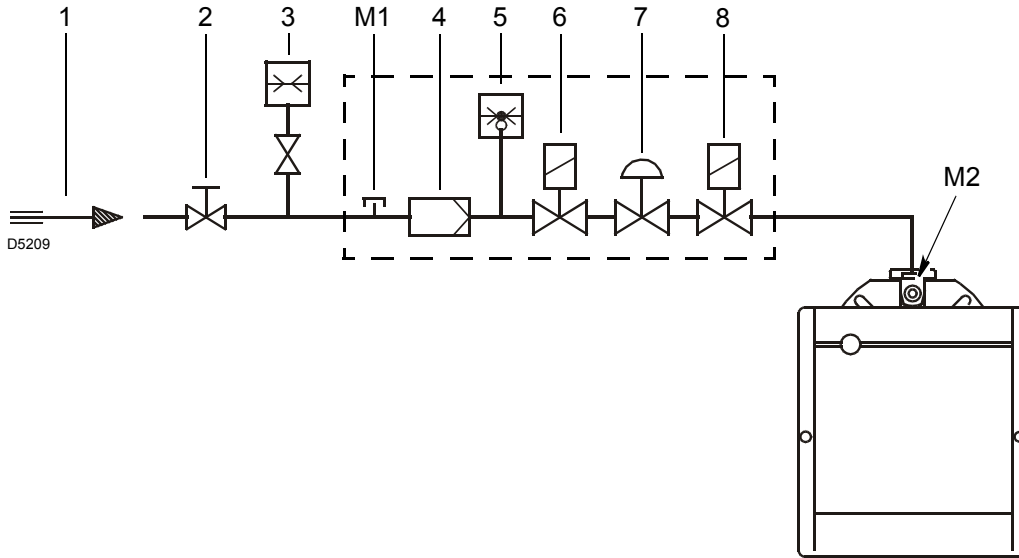

Fig. 14
Key (Fig. 14)
Gas pressure measured at test point M2)(Fig. 14), with:
- subtract the pressure in the combustion chamber from the pressure of the gas at test point M2)(Fig. 14).
Pressure of the gas at test point M2)(Fig. 14) = 12.2mbar
To calculate the required gas pressure at test point M2)(Fig. 14), with the maximum modulating output at which you want the burner to operate having been fixed:
- Read on the right, column 1, the pressure at the socket M2)(Fig. 14).
pressure required at the test point M2)(Fig. 14).